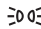

Fig. 104 Instrument panel: light panel.
- Switch on the ignition and select mode **AUTO** on the headlight control >>> **Fig. 104**.
- Switching off mode **AUTO** on the headlight control >>> **Fig. 104**.